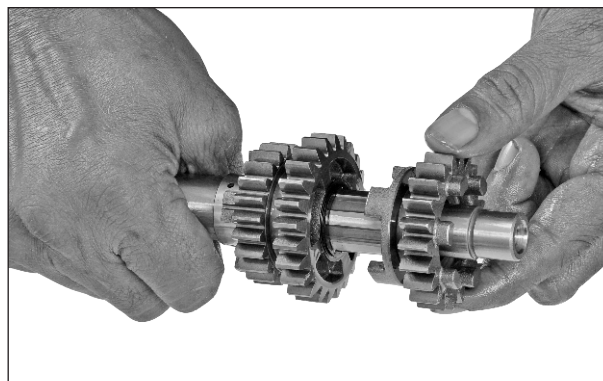

Fig. 3.161
- Take out the gear 4th driven. (Fig. 3.161)